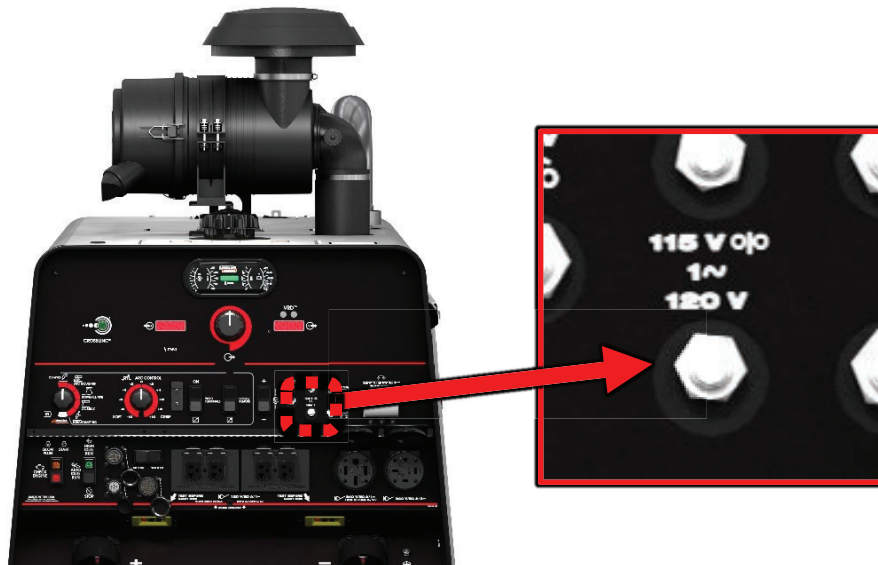

Figure F.1
1. For location of CB3 refer to Figure F.1.